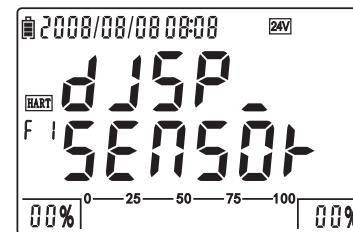

Figure 4-5-1-1: F1 entrance interface
- a. Switch to HART function 1 by pressing  , as figure 4-5-1-1.
- b. Display the sensor's range by pressing  , as figure 4-5-1-2.
- c. Press  to return to figure 4-5-1-1; switch to function 2 by pressing  .